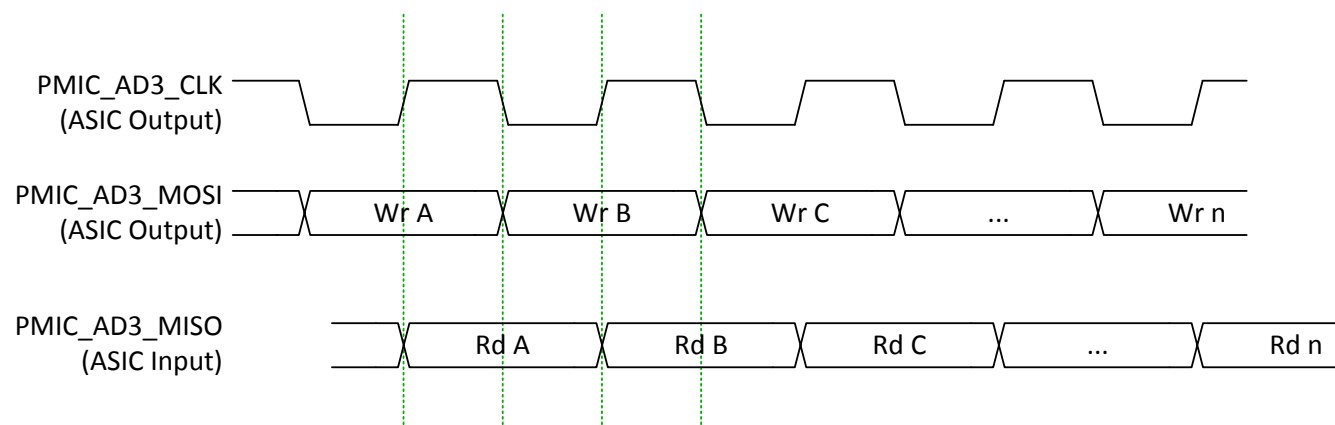

图 5-12. TPS9900S-Q1 AD3 Data Capture and Transition
- (1) The DLPC23xS-Q1 communicates with the TPS99000S-Q1 using a slight variant of SPI Transfer Mode 0 (that is, clock polarity = 0, clock phase = 0). Instead of capturing MISO data on the clock edge opposite from that used to transmit MOSI data, the DLPC23xS-Q1 captures MISO data on the same clock edge used to transmit the next MOSI data. As such, the DLPC23xS-Q1 SPI interface to the TPS99000S-Q1 requires that MISO data from the TPS99000S-Q1 remain active until the end of the full clock cycle to allow the last data bit to be captured. This is shown in 图 5-12.